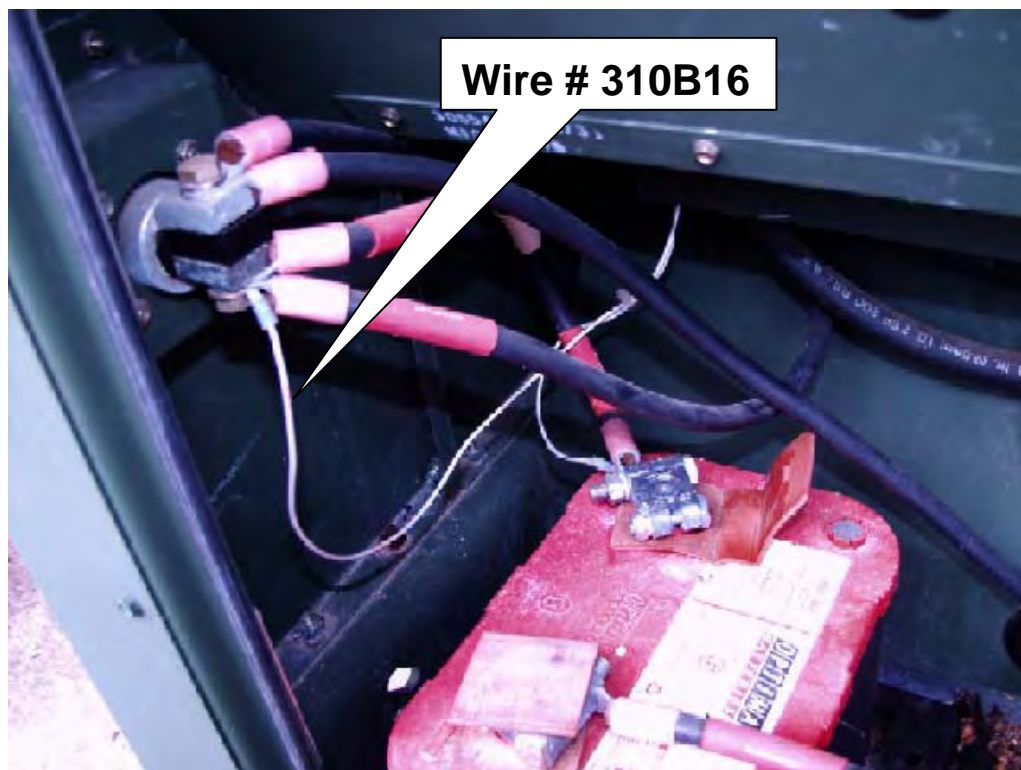

Figure 2. Battery Compartment
- 2 Remove wire # 310B16 from the positive terminal of the NATO slave receptacle (SR1) as shown in figure 2.